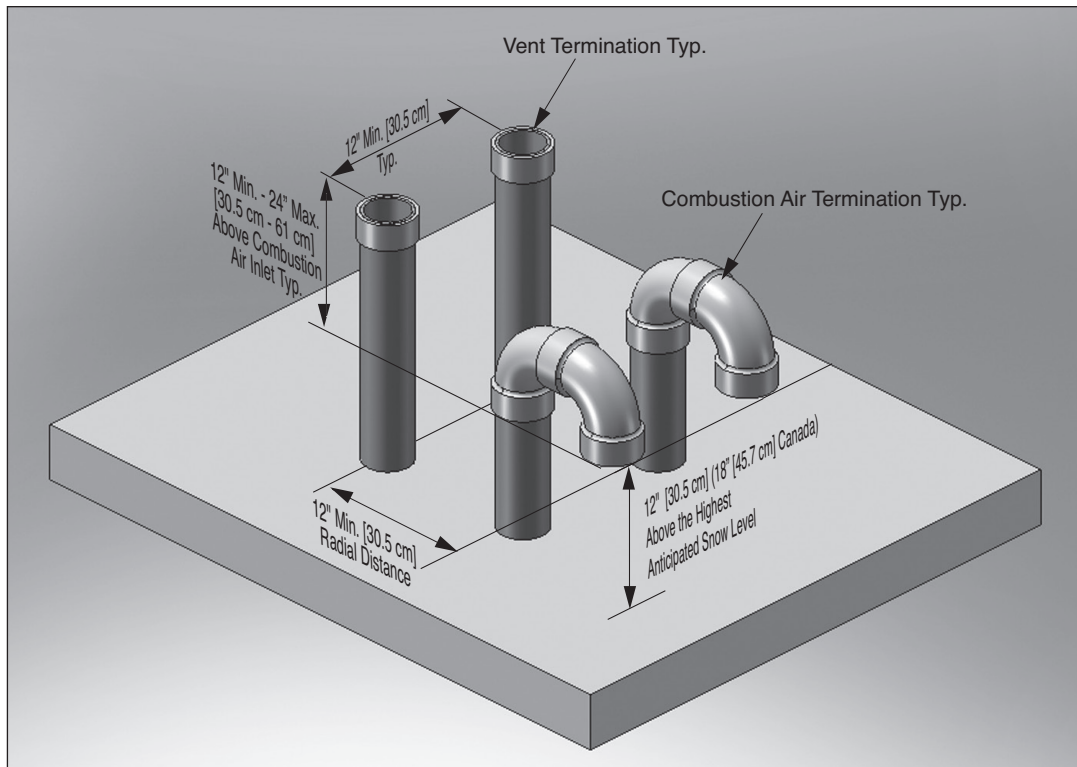

Fig. 5 - Direct Vent - Vertical Termination of Multiple GALLANT Boilers
2. The roof penetration of the vent and combustion air piping must be such that the combustion air inlet is a minimum 12 in. [30.5 cm] from the adjacent vent pipe of the other boiler for installations in the U.S. as shown in *Fig. 5 on page 14*. For installations in Canada, provide clearances as required by CAN/CSA B149.1.